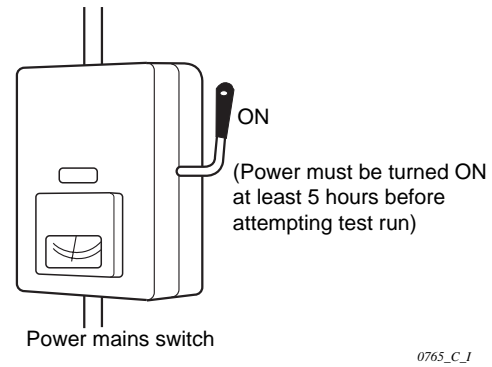

Fig. 11-1
- (1) All loose matter is removed from the cabinet especially steel filings, bits of wire, and clips.
- (2) The control wiring is correctly connected and all electrical connections are tight.
- (3) The protective spacers for the compressor used for transportation have been removed. If not, remove them now.
- (4) The transportation pads for the indoor fan have been removed. If not, remove them now.
- (5) The power has been connected to the unit for at least 5 hours before starting the compressor. The bottom of the compressor should be warm to the touch and the crankcase heater around the feet of the compressor should be hot to the touch. (Fig. 11-1)